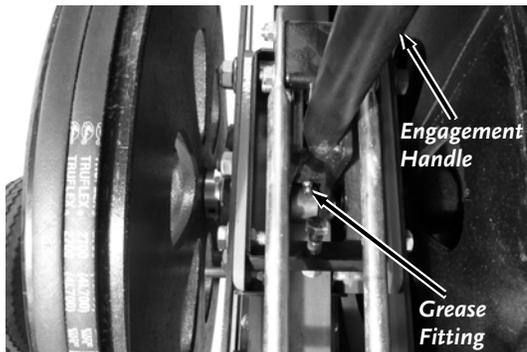

Figure 27
2. Clean the Grease Fitting with a clean Rag (**Figure 27**).